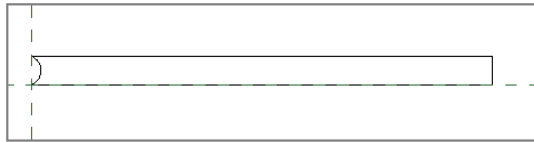

FIGURE 11.13 The grout detail component
2. Create a masonry joint 6" long and 3/8" (10 mm) high with a strike on one of the short ends (Figure 11.13) using a filled region. Save the family as **04 Grout**, and load it into the project.